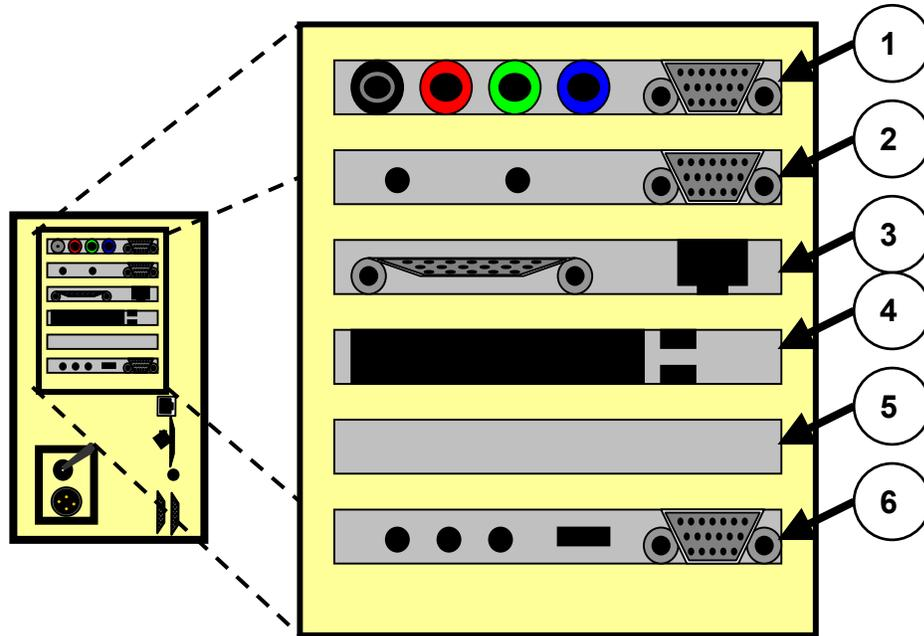

Figure 3-4. CCU2 card slots.
a. The CCU2 supports a six card slots. These are displayed in Figure 3-4 and described in table 3-3.